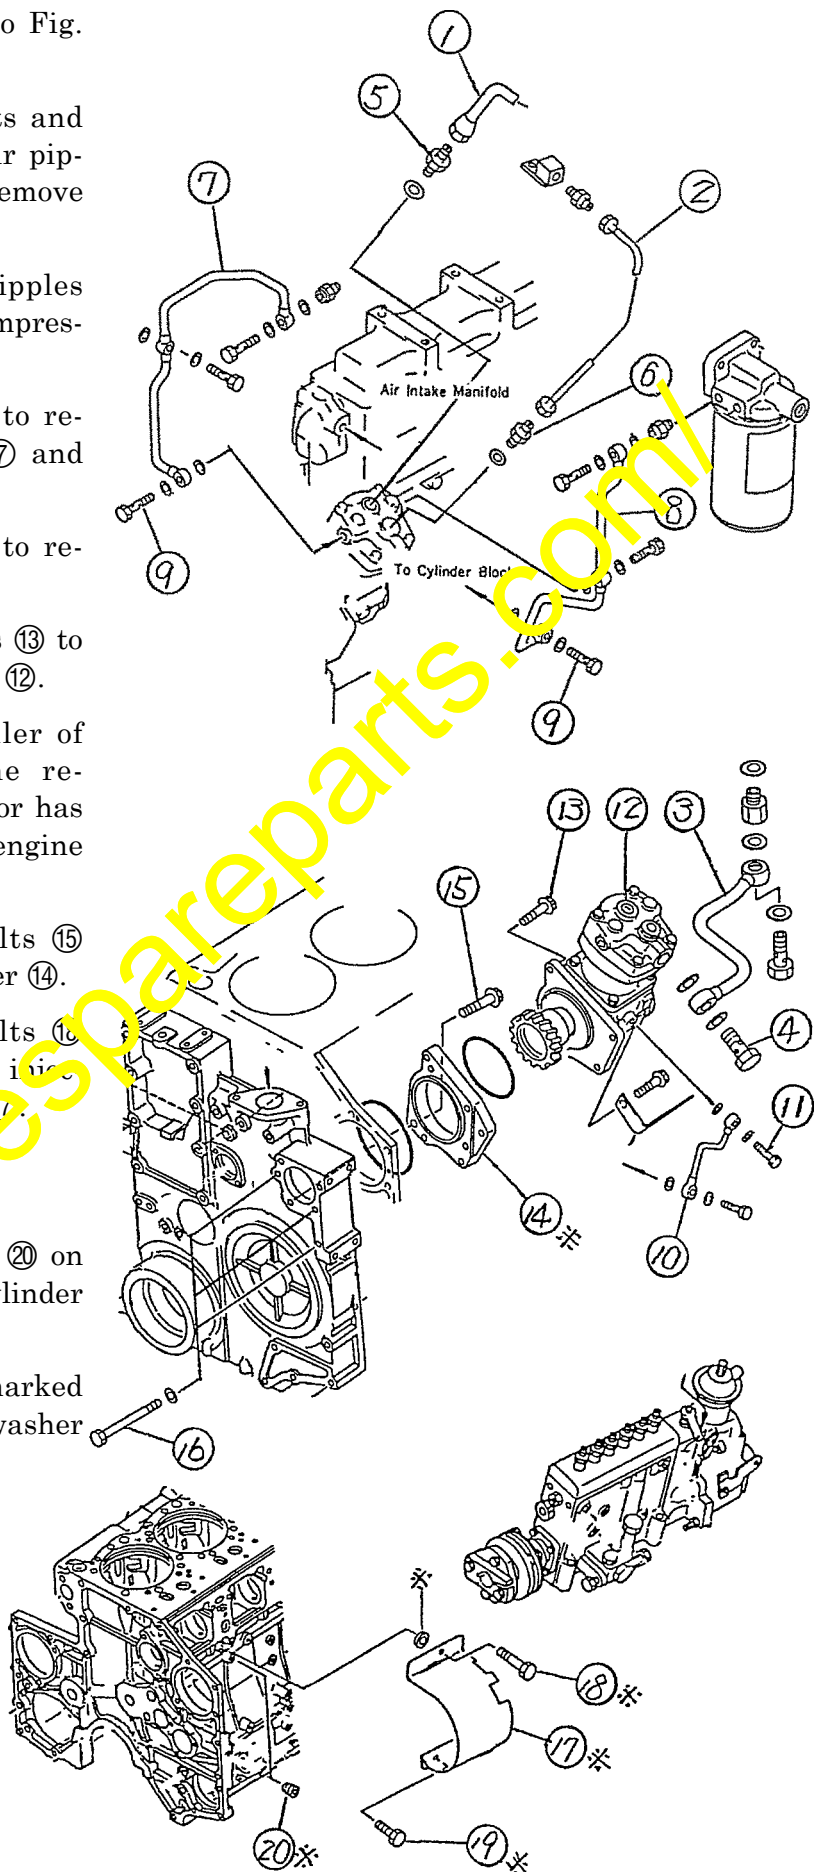

Fig. 1
2) Removal procedure (Refer to Fig. 1.)